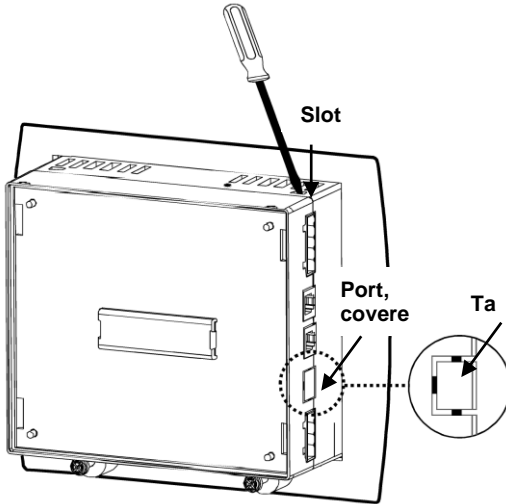

Figure 1.
4. The port's location is covered by plastic. Remove the plastic covering using a razor cutter to cut through the tabs shown in Figure 1.
3. The port's location, COM 3, is covered by plastic. Remove the plastic covering using a razor cutter to cut through the tabs shown in Figure 1.